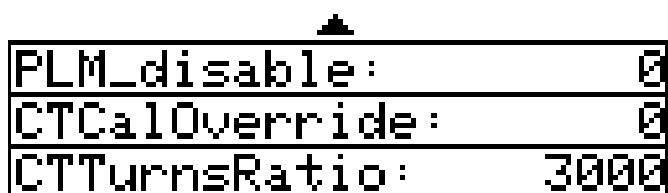

Figure 3-14. Mod. Settings Menu (3 of 3)
- See Figure 3-14. To save the settings, highlight Commit and press the center button.